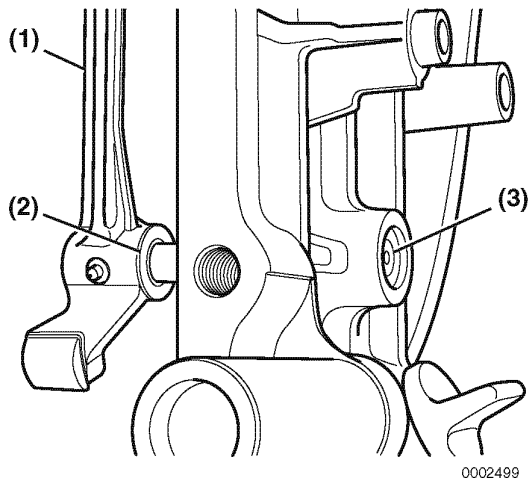

Figure 8-81
5. Remove the throttle shaft and governor arm assembly (**Figure 8-81, (1)**) along with the washer (**Figure 8-81, (2)**).
6. Carefully pry the seal (**Figure 8-81, (3)**) out of the bore.